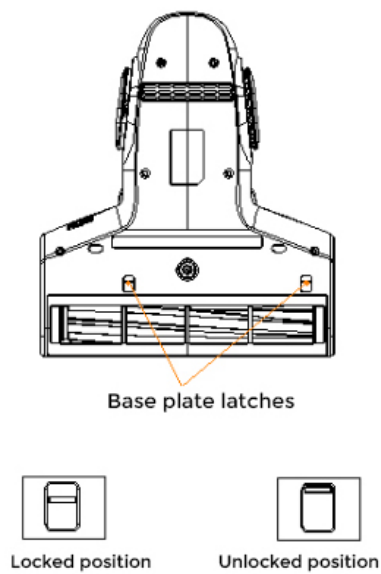

Fig.9
2. Pull both base plate latches backward to unlock (Fig. 9).